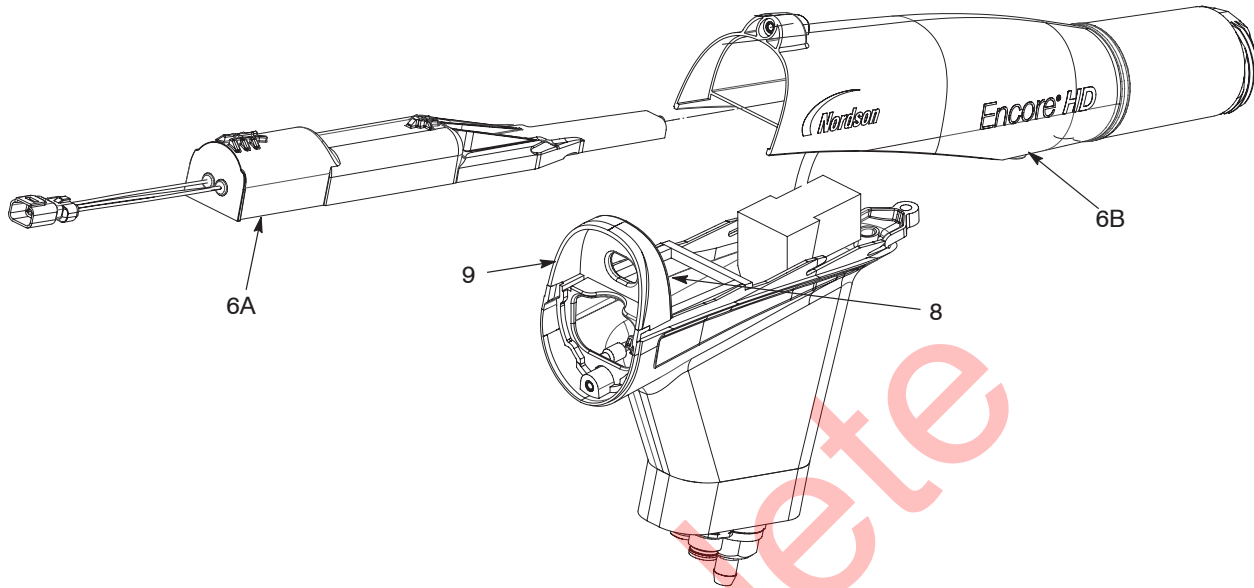

Figure 5-3 Power Supply Replacement
1. See Figure 5-3. Slide the power supply (6A) out of the gun body (6B).
2. Check the gasket (8) on the back of the bulkhead (9). Replace it if it is damaged. The gasket is attached to the bulkhead with pressure-sensitive adhesive.